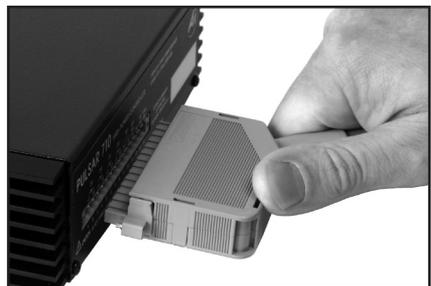
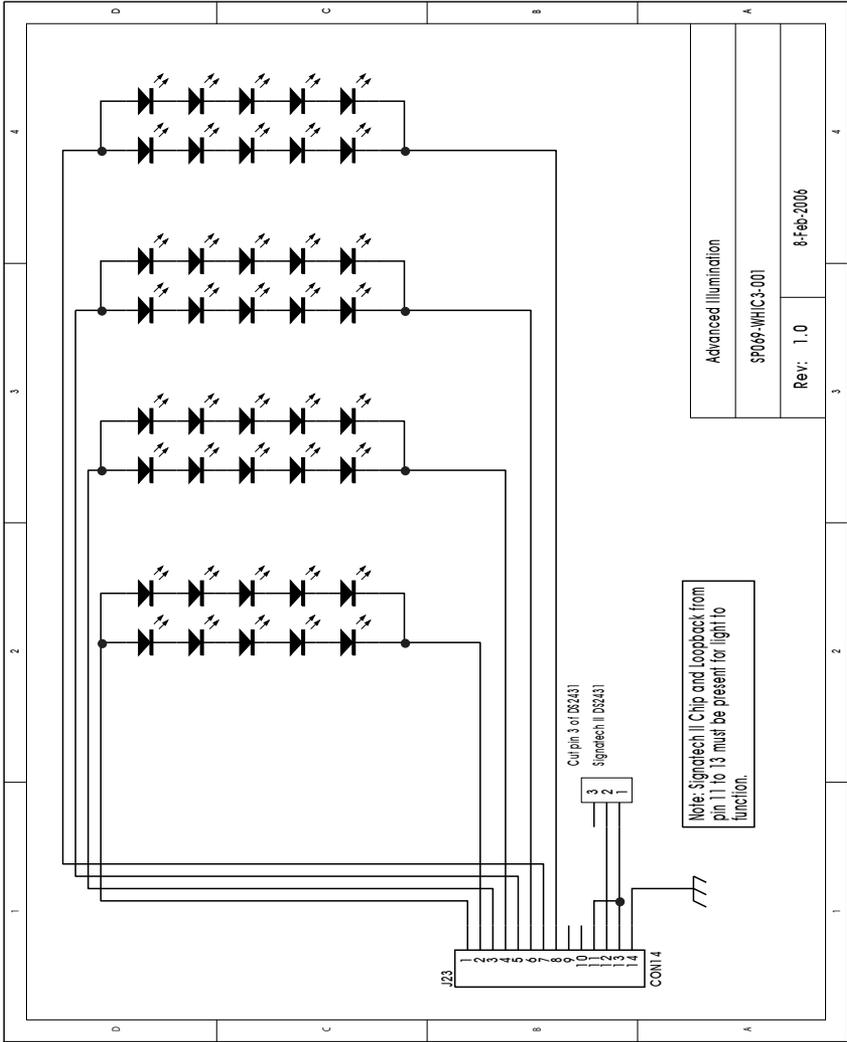

Figure 3: Attaching a light to the Pulsar 710
Figure 5: Output connector connection diagram example
Figure 3 shows how the output connector on the rear panel of the Pulsar 710 mates with the light head connector. Plug the connector from the light head into the 14 pin socket in the rear of the Pulsar 710 as shown in Figure 3.
4.2.5 Light Head: Power output is supplied through the 14 pin terminal block / connector on the back panel of the Pulsar 710. Table 1 identifies the function of each pin within the 14 Pin connector. Figure 5 is an example of a connection diagram for the output connector that is factory wired before the light head(s) leave Advanced illumination. Plug the connector from the light head into the 14 pin socket as shown in Figure 3.